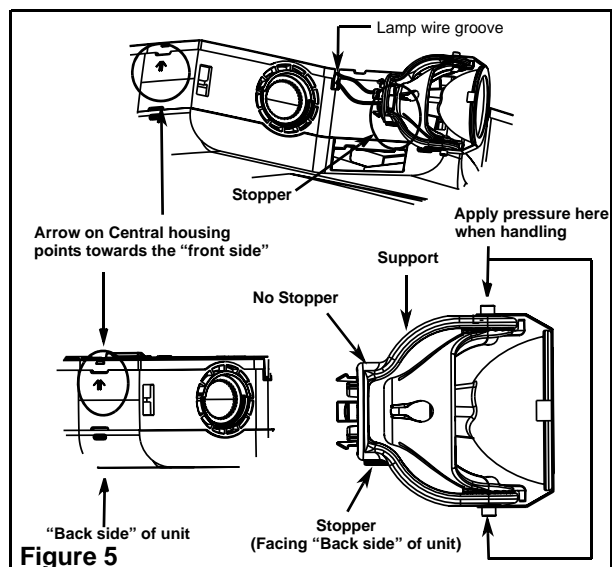

Figure 5
3. Align and snap in place with "stopper" oriented per Figure 5.
4. Handle assemblies by applying a pressure on either end of the support per Figure 5.